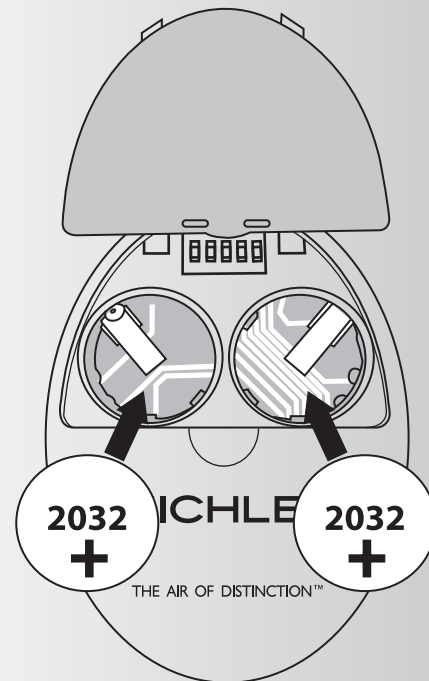

Fig. 11
Open the back of the Transmitter (figure 11)
2. Insert both batteries and make sure they are seated correctly in each recess with the Positive + sign facing up. Replace the battery cover. (Figure 11)